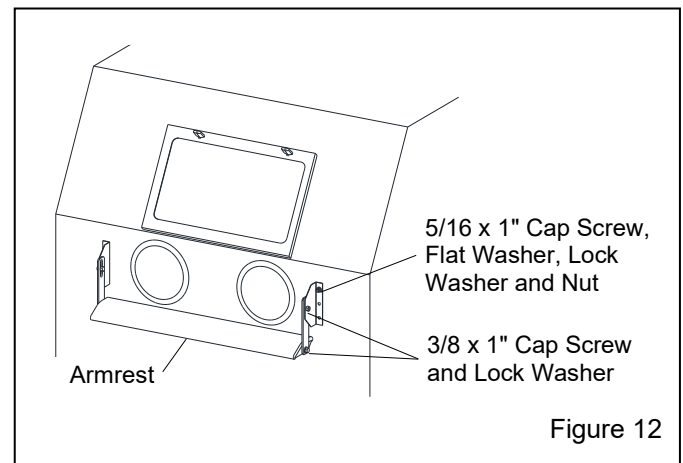

Figure 12
3.4.1 Assemble the armrest and mounting brackets, as shown in Figure 12.